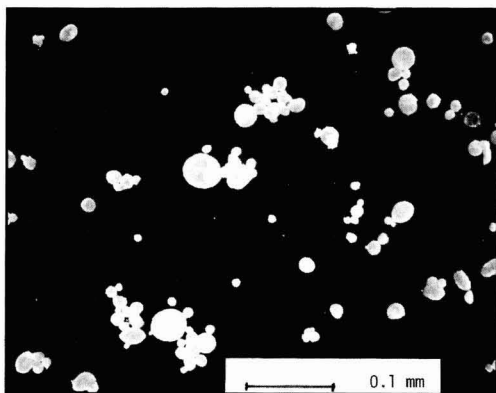

Figure 2—Yellow pigment flocculates after washing and separating as described in the text. Photographed using darkfield illumination at 200X
**COATING INK:** The ink was coated onto stainless steel wire mesh ribbons ( $84 \times 84$  wires/in., wire diameter = 0.0035 in., Tetko, Inc.) and allowed to dry in a hood for at least 24 hr. All samples were cured in a circulating air oven for  $\sim 2$  hr at temperatures close to  $230^\circ\text{C}$ . Two ovens were utilized. One was a well controlled laboratory oven used to measure ink batch-to-batch variation at constant cure. Coated mesh ribbons (3-8 in. in length) cured in this oven were suspended from an oven rack by clips (No. 20 binder clips) so that the mesh ribbons were in the center of the oven. The other was a typical manufacturing oven, where mesh samples were cured along with actual coated disks by mounting  $\sim 2$  in.-long samples in the special disk fixture shown in Figure 2. By utilizing a constant coating ink, the oven batch-to-batch variation was determined. Samples were scanned in the 982 DMA at  $10^\circ\text{C}/\text{min}$  under  $0.4\text{l}/\text{min}$  nitrogen flow. As before, DMA  $T_g$  was taken as the maximum in the damping curve associated with the glass transition.
**Figure 2—Special thermocoupled disk for curing coating on stainless steel mesh for subsequent DMA analysis. Samples can be cured together with actual disks in the manufacturing process, and DMA  $T_g$  can be compared with time/temperature profiles**
When viewed under the microscope (*Figure 2*), the appearance of the washed yellow agglomerates was unusual. They were not at all like undispersed pigment aggregates which are compact and angular, or like flocculated pigment that forms an extensive floc that can usually be redispersed by shearing. Each of the yellow agglomerates was approximately spherical, and plastic—they could be deformed by pressure on the cover slip. The aggregates did not readily coalesce, and resembled droplets of oil containing a large amount of yellow pigment. Extraction of the agglomerates with tetrahydrofuran, followed by analysis using infrared spectroscopy, showed a high concentration of an aliphatic hydrocarbon. However, when transferred into Dowanol® PM, a solvent that is miscible with both water and hydrocarbons, the agglomerates did not readily redisperse. Therefore, they were not simply pigment-enriched droplets of hydrocarbon solvent.